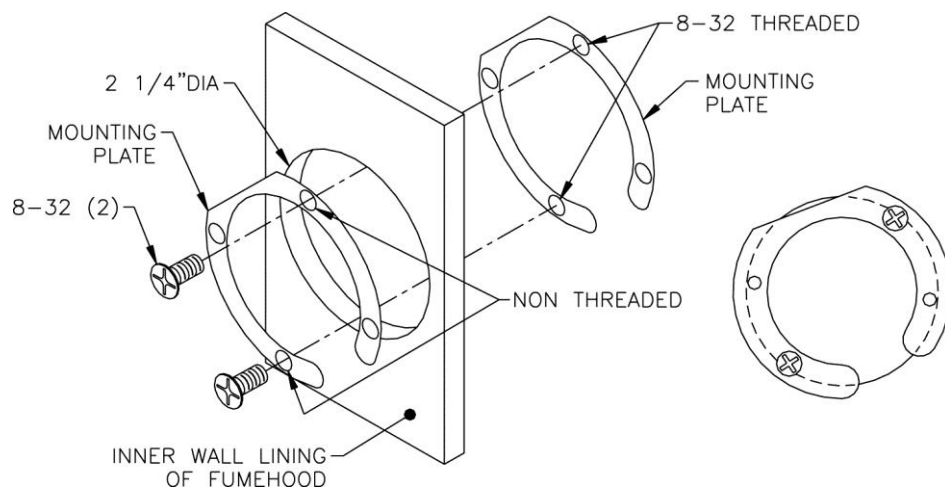

Figure 3: Install Mounting Plates
3. Install the Mounting Plates to the fume hood inner wall lining using two of the supplied screws (Figure 3).
4. The Mounting Plates must be installed exactly as shown (Figure 3).